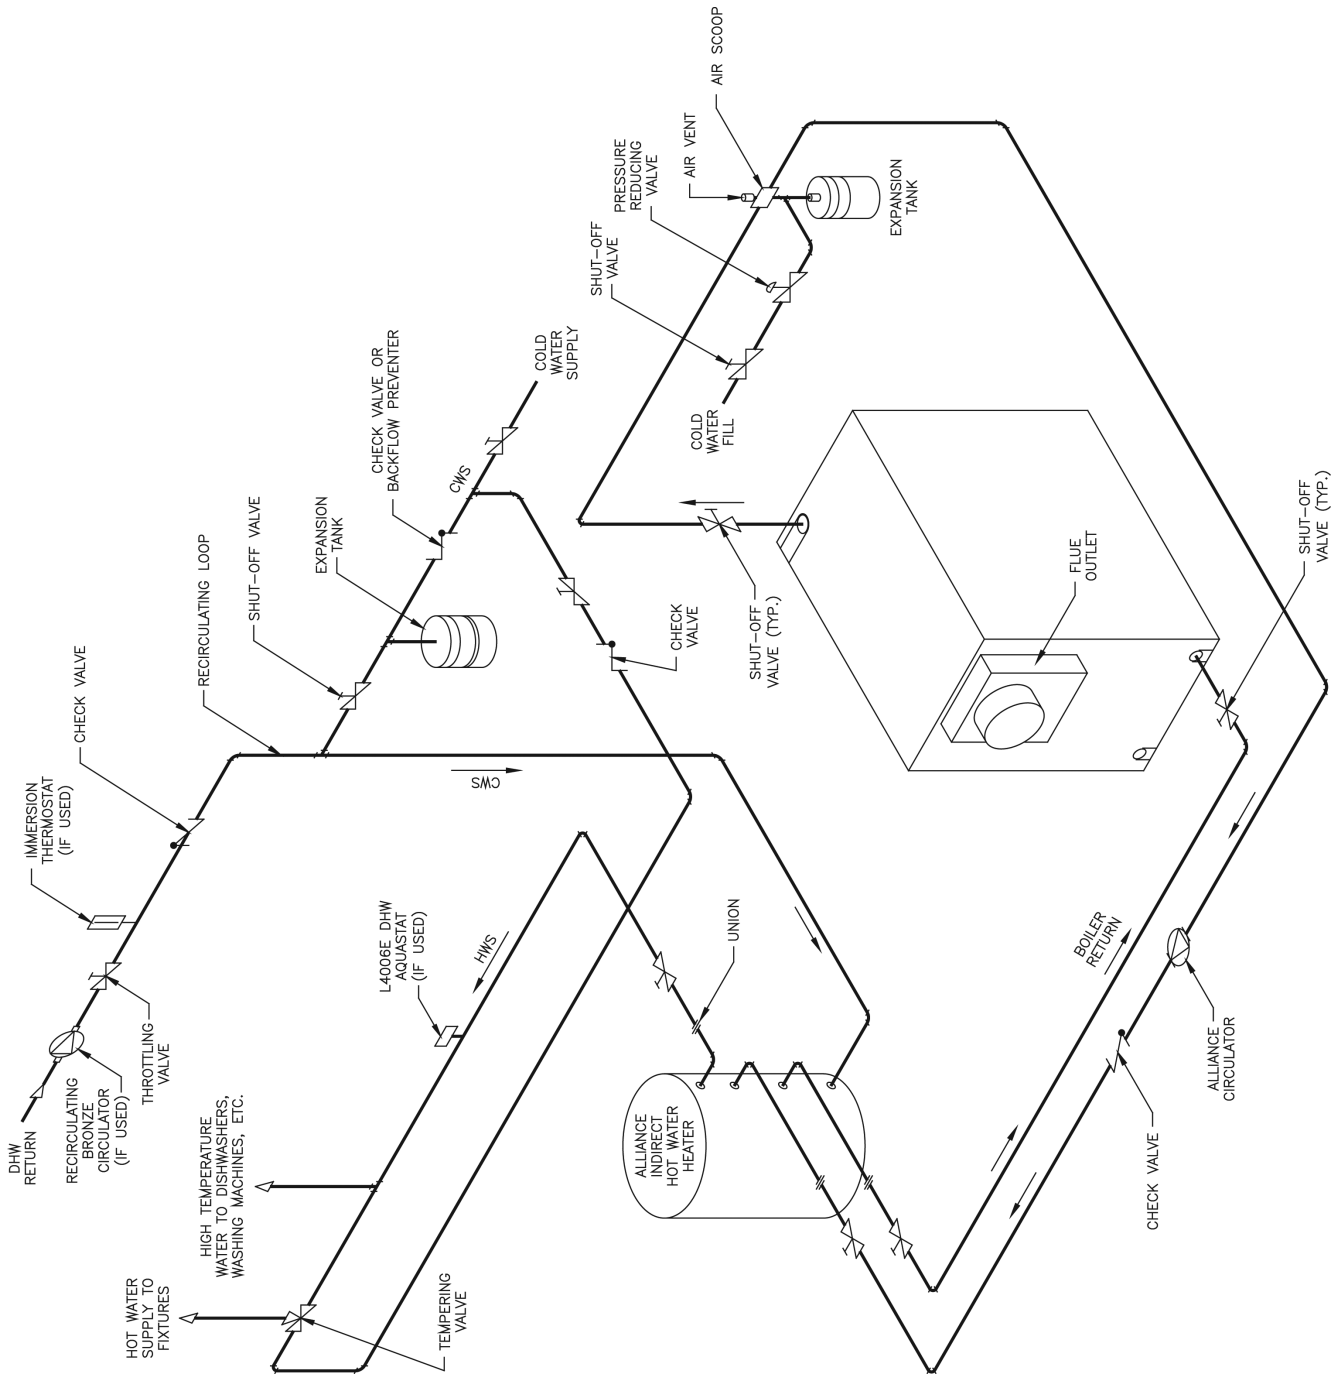

Figure 34c: DHW Generation with Indirect Water Heater
3. Hot Water Boiler/Indirect Water Heater - The use of indirect water heaters for domestic hot water generation is common and somewhat advantageous over tankless coils alone, since they also provide DHW storage. A tempering valve and recirculating pump are again recommended for a dual temperature system, to provide a constant temperature to the fixtures without waiting for cooler water to warm up. Figure 34c shows a typical indirect heater piping application with no space heating. Indirect pump flow rates are calculated based on a 20°F  $\Delta T$ .